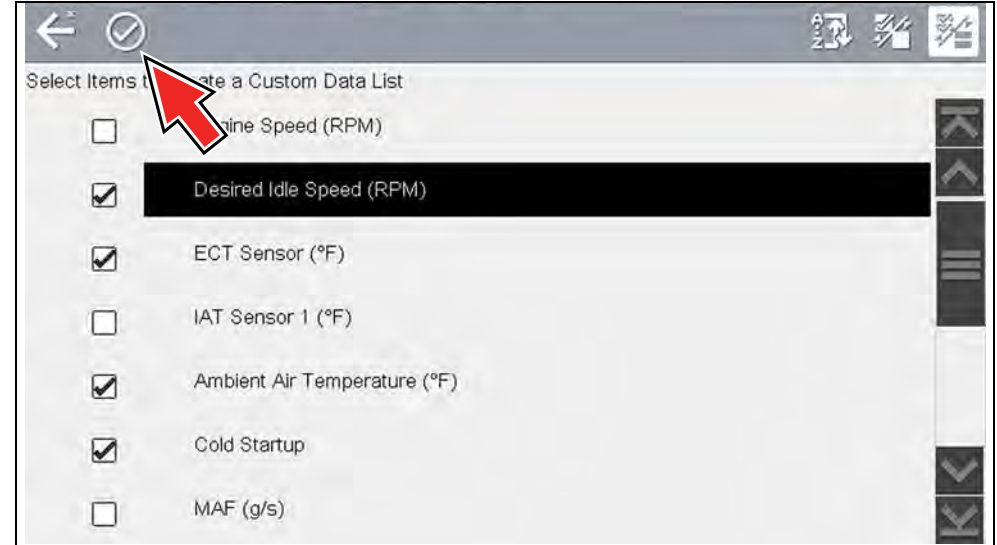

Figure 5-15
2. Create a custom data list by selecting (check mark) the parameters to include (Figure 5-15).
3. To create and view the custom list, select the **Accept** icon (Figure 5-15).